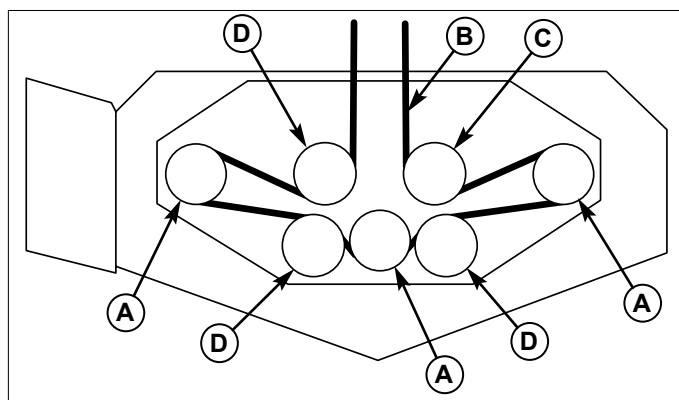

Figure 31. Mower PTO Belt Routing
5. Remove the old belt and replace with a new one. Make sure the V-side of the belt runs in the pulley grooves (Figure 31).